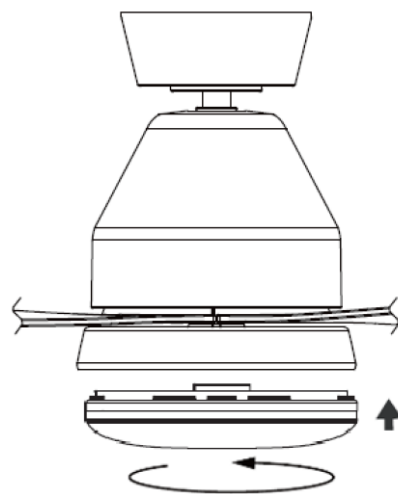

Fig. 6
- Install the globe to the lamp holder. (For fan with light only) Fig. 6